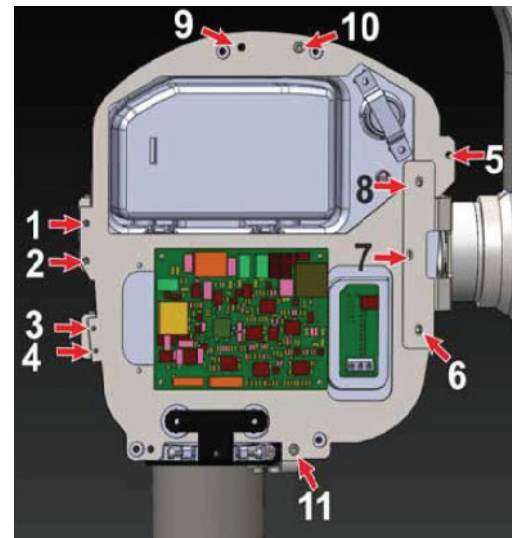

Figure 38
- Using 2.5mm allen key & 5.5mm nut driver fix 3 Hex. Soc. head cap screws(M3X16) with M3 plain washers & M3 nuts (at the locations 9 to 11 as in Figure 38) such that the screw along with M3 plain washer should be inserted from bottom and nut along with M3 plain washer should be on the top of the H V Tank.
- Fix 5 button head screws(M3X6) using 2mm allen key(at the locations 1 to 5 as in Figure 38).
- Fix 3 Hex. Soc. Head cap screws(M3X6) on the top of the clamp near Tube head arm at the locations (6 to 8 as in Figure 38) using 2.5 mm Allen key.